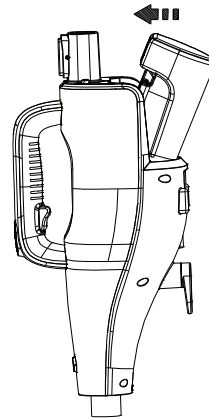

Figure 4
- 1-4. Put the water tank filled with appropriate amount of purified water back to the main body, as shown in Figure 4.